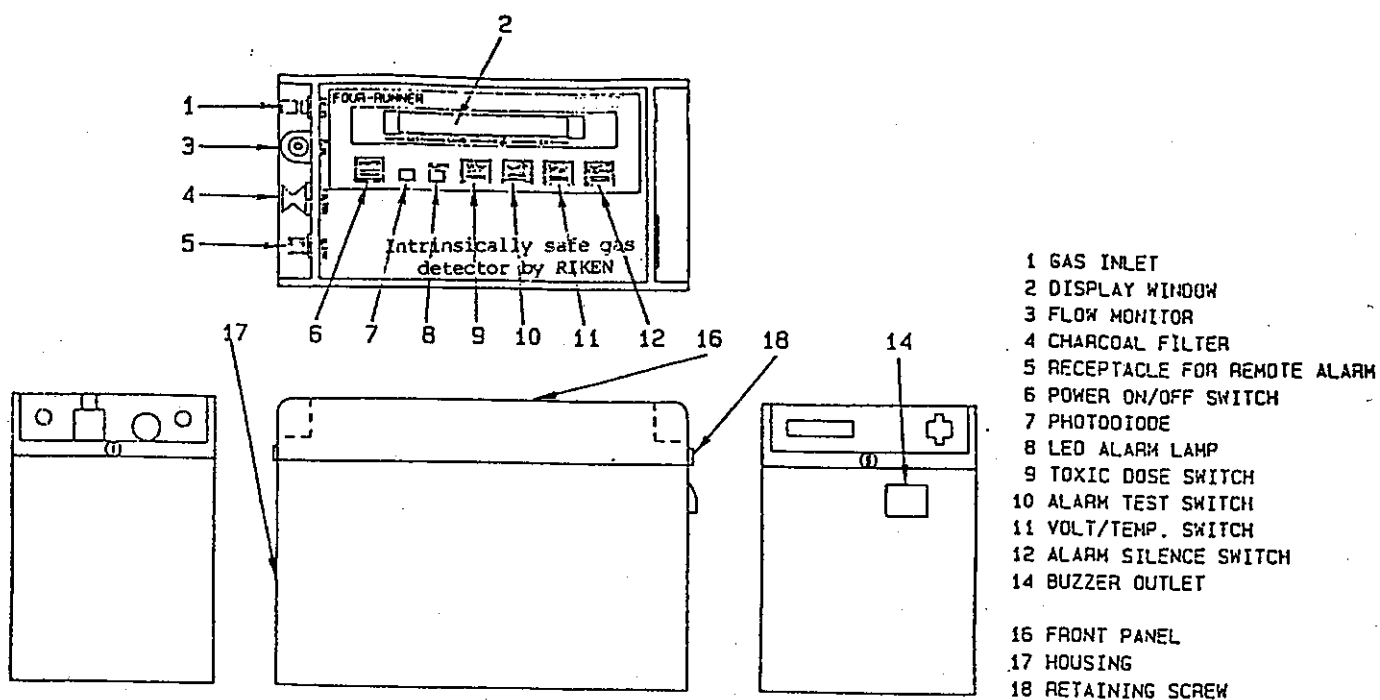

Fig. 1
A. General Description (See Figure 1)